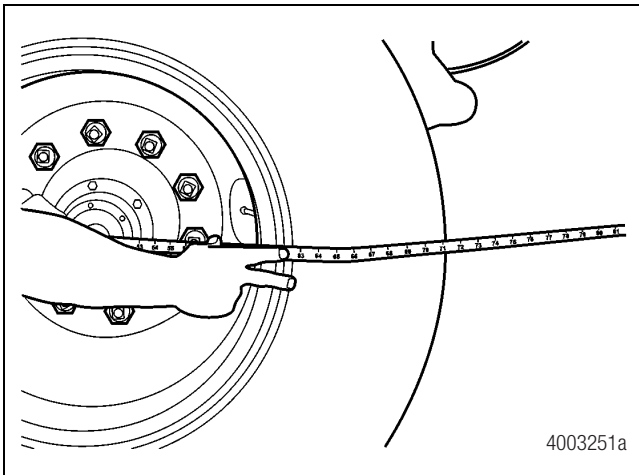
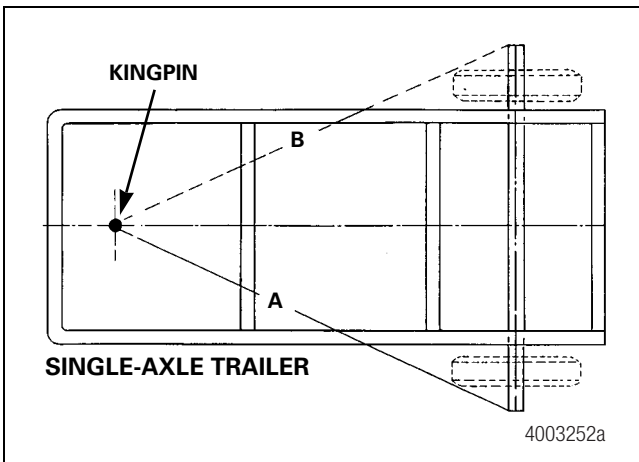

Figure 71
Figure 72
4. Attach a steel measuring tape to a hook. Attach the hook to the kingpin and measure distance "A" on the roadside and "B" on the curbside of the trailer. The difference between these dimensions must not exceed 3/16-inch (4.763 mm). Adjust the axle, if necessary, to bring this difference within specification. Figure 71 and Figure 72.